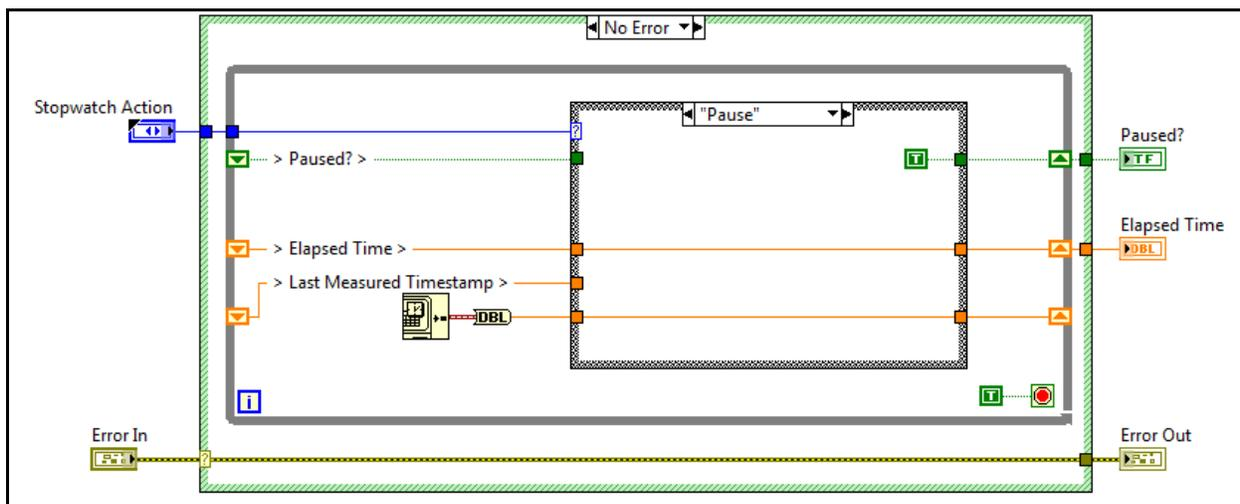

Figure 4. Completed Pause Case of the Functional Global Variable
12. Wire the Pause case as seen in Figure 4.